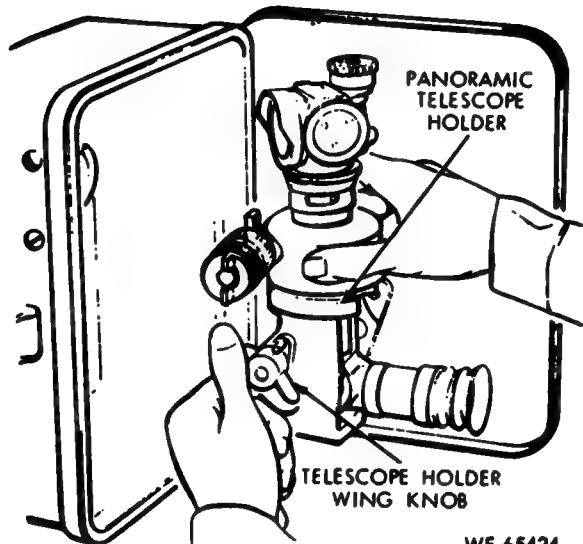

Figure 71. Removing or installing panoramic telescope M12A7C from or in telescope case on shield.
(1) Open the panoramic telescope case, located on the back of the left shield of the howitzer carriage (fig. 2). To remove the telescope from its holder on the telescope cover, turn the telescope holder wing knob against its spring pressure as far as it will go and lift panoramic telescope straight up and out of the holder (fig. 71).